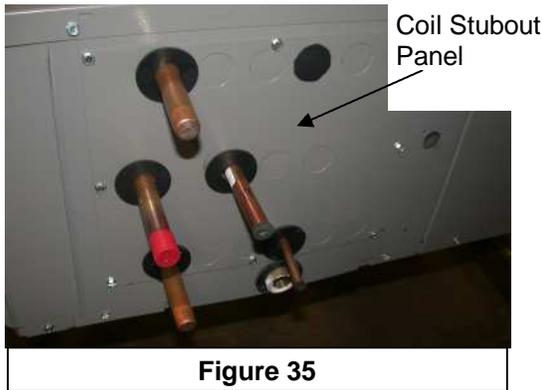

Figure 35
3. Remove the flat coil stubout panel. Refer to Figure 35 and 36 Note that there is another coil access panel on the opposite side of the unit.